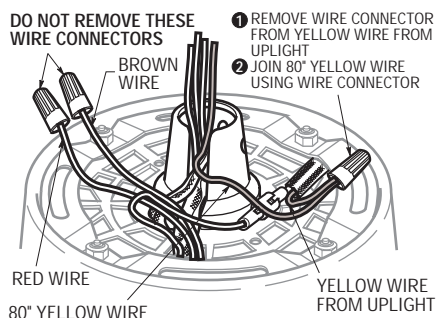

Figure 7
- 13. For Ceiling Fan Models F2100, F2200, CF2300, CF2500 and CF3900 Only.** Locate and remove the connector from the yellow wire from the uplight (Figure 7). Separate, untwist and unkink the 80" yellow wire lead (supplied with the fan) and cut off the connector from the end of the wire. Strip 1/2-inch of insulation from the end of this wire. Then join the 80" yellow wire to the yellow wire from the uplight using a wire connector (supplied).